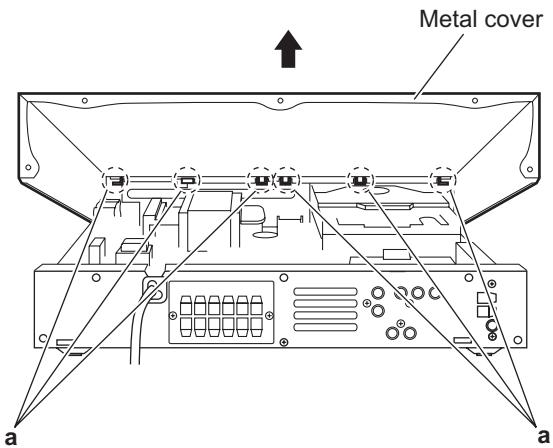

Fig.4
- (3) Lift the rear section of the metal cover in the direction of the arrow while extending the lower sections of the metal cover, release the claws **a** using a longer screwdriver from the inside as required. (See Fig.4.)
Do not damage any parts and boards inside the main body when releasing the claws **a** using the longer screwdriver. (See Fig.4.)